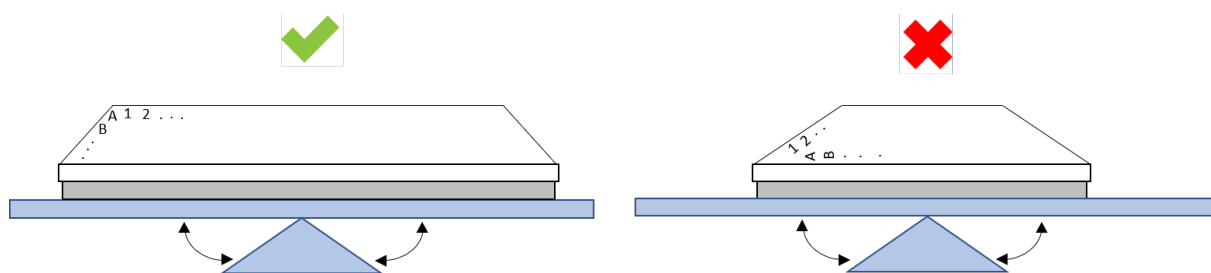

Figure 6: Place the OrganoPlate® on the OrganoFlow® in the correct orientation
11. Optional: Place the plate on the OrganoFlow® rocker in a humidified incubator to start cell culture (see figure 6)